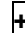

Figure 17
- Display Contrast Level.** Touch the TIME once, as shown in Figure 17. The display contrast value will begin flashing (example, lcd0 thru lcd8), and the  button and  button will be flashing (in the tendency section of the display).